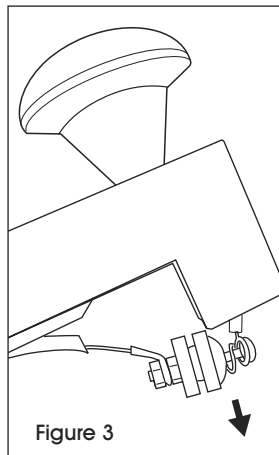

Figure 3
2. Locate the insulator assembly and remove from arm slot by pulling downward. (See Figure 3)